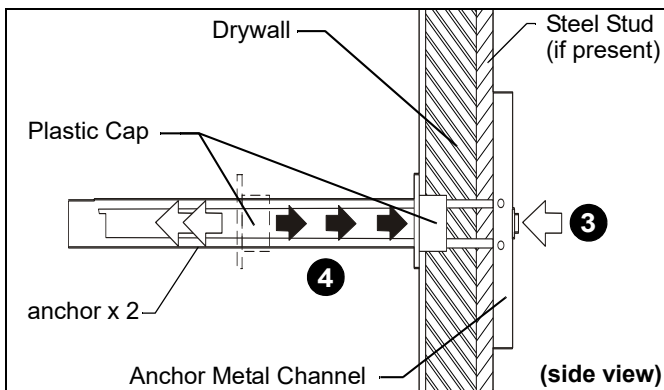

Figure 12
3. Holding plastic straps on anchor, pull anchor away from wall until channel rests flush behind wall making sure anchor channel is positioned vertically on steel stud (if present). (See Figure 12)
4. Slide plastic cap on anchor towards wall until flange of cap is flush with wall. (See Figure 12)